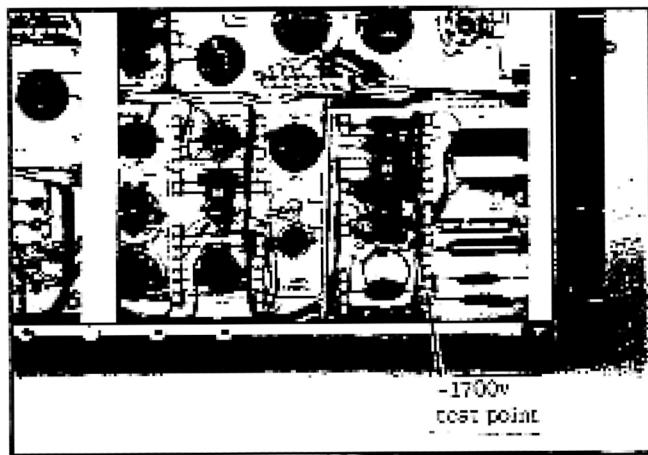

Fig. 5-3. High Voltage test points.
While the Type 370 Oscilloscope is still in a position for access to the underside, the HV will be set. Connect the voltmeter to the high-voltage test point shown in figure 5-3. Adjust the H V ADJ until a reading of -17(0) volts is obtained.